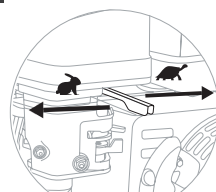

IMAGEN 9
1. AJUSTE DE LA VELOCIDAD DEL MOTOR (IMAGEN 9)